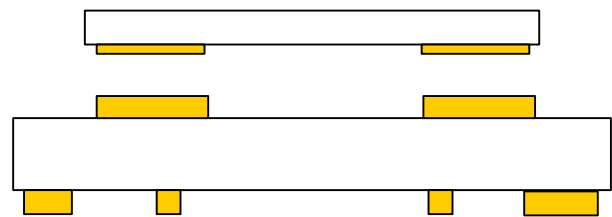

Figure 19. Correct PCB Top Metal Pattern Under Package
2. No additional metal pattern underneath package as shown in Figure 19.